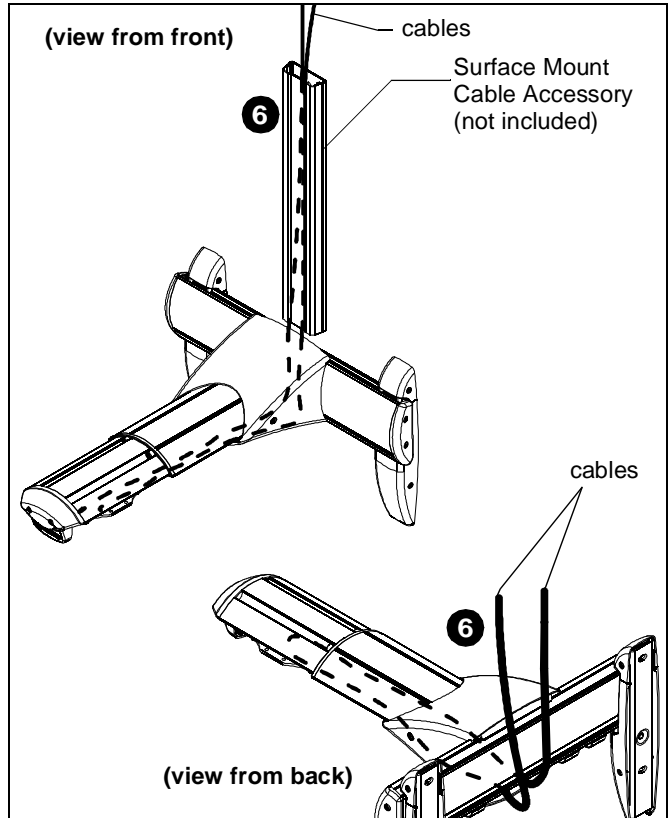

Figure 24
6. Thread cables down through a surface mount cable accessory (not included), then behind and into the wall bracket. (See Figure 24) **Proceed to Step 7**